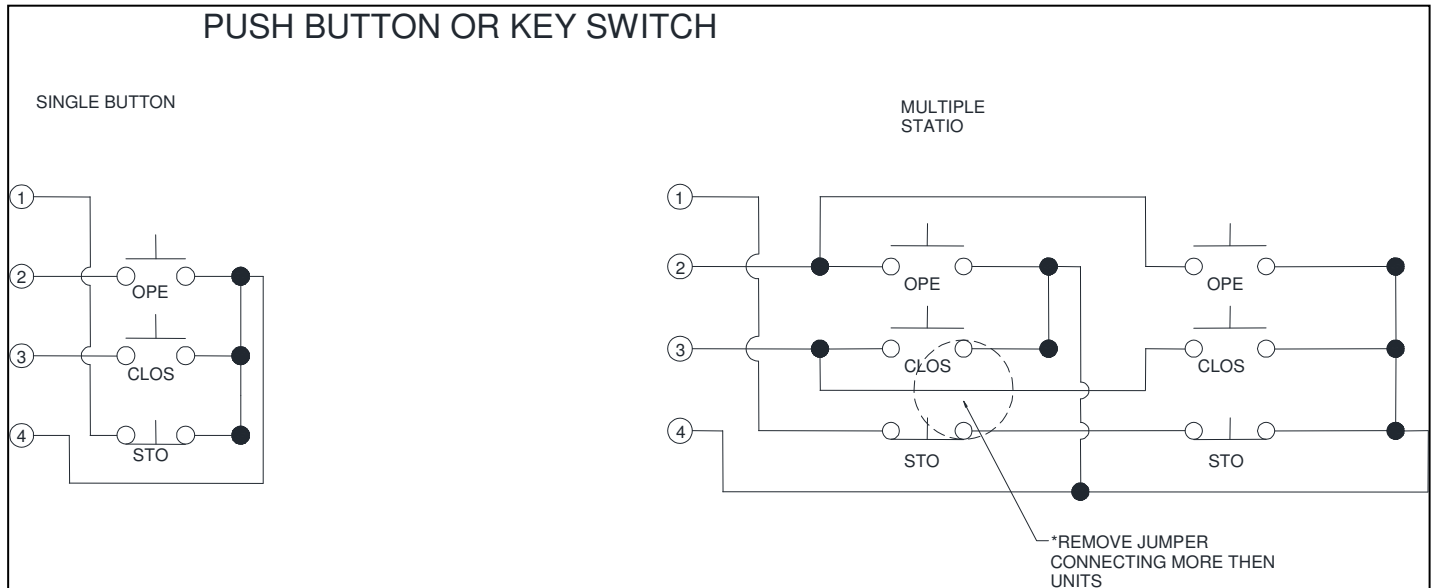

Figure 2.g. Control Station Wiring Diagram
2. See **Figure 2.g.** for wiring information. (Continuous Mode shown.)